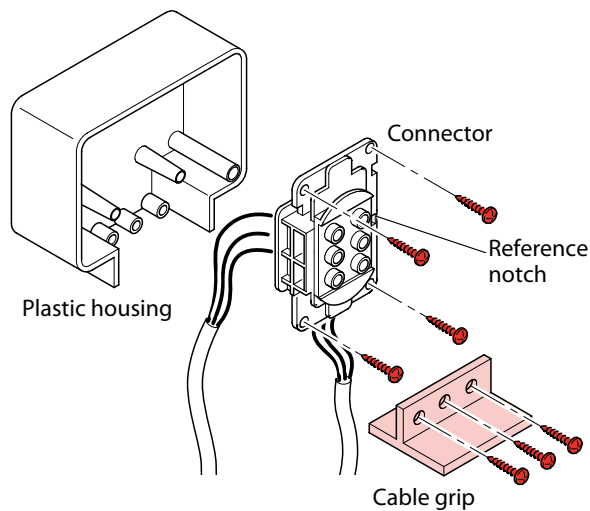

Fig. 3
1. Wire up the Input-Output connector supplied as shown in figure 3, using insulated cable with wires whose section is at least **2.5 mm²**.
2. Insert the connector into the plastic housing and secure it using the screws supplied. Secure the wires to the housing using the cable grip (see fig. 3).
The cables supplied are fitted with an input plug and outlet sockets whose maximum capacity is 16A. Therefore, we recommend use of direct cabling from the control panel to the connector supplied (follow instructions for connections shown in Figs. 3 and 4 on Page 11) for applications where the anticipated UPS input current will be in excess of 13A (e.g. 5000 VA with $V_{in}=184V$)